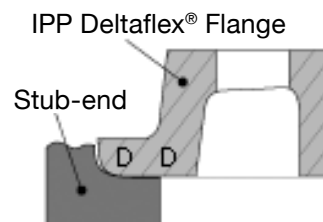

Fig.3
2. The IPP Deltaflex® flange face D–D (see Fig. 3) should be in full contact with the upper face of the stub-end all around the circumference to avoid fulcrum effect, which will lead to leaking and even breaking of the flange itself while torquing the bolts